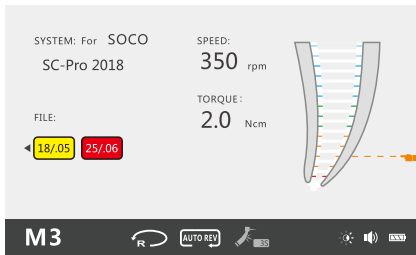

Fig.29 Set Apex Position
- Press the SET key, the apex setting icon becomes adjustable state, (Fig.29)